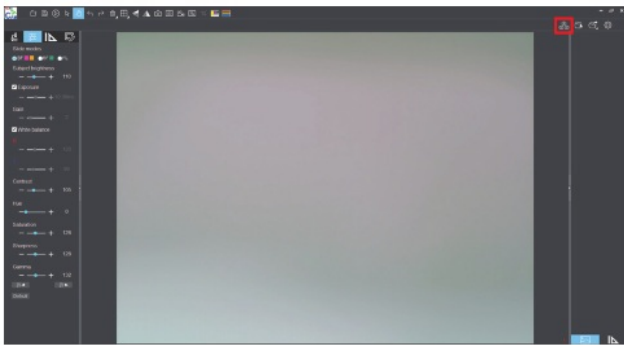

Figure 1
4. When there are multiple network cameras in the same local area network, click the icon “” in the upper right corner of KoPa Capture Pro (Figure 1), the list automatically shows all cameras in the current local area network (Figure 2), select a camera as needed, support switching midway at any time.